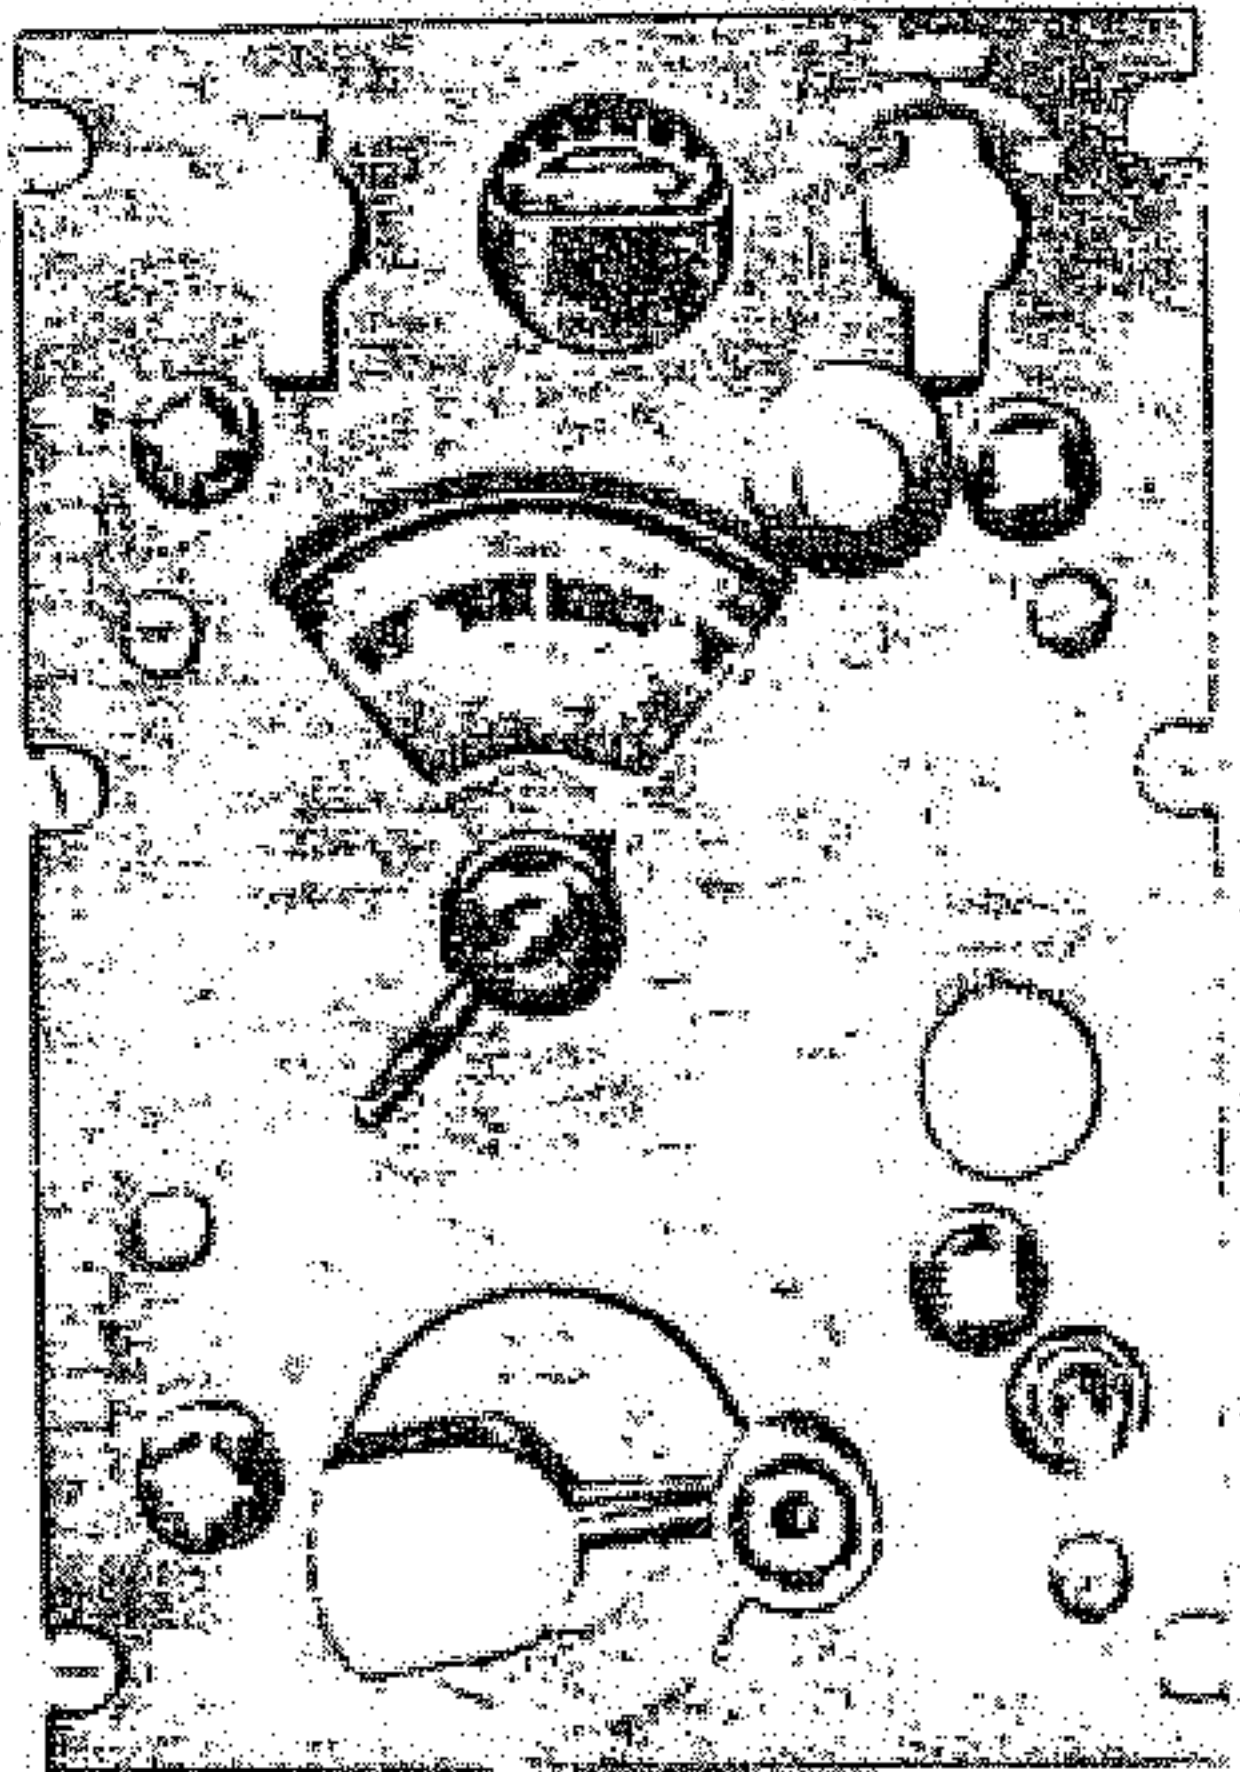

Figure 1-1B. Control Panel C-758/A
**b. CONTROL PANEL C-758/A. (See figure 1-1B.)**
**m. CONTROL PANEL C-758/A.** (See figure 1-1B.)—Control Panel C-758/A is similar to Control Box C-149/ARN-6 except that Control Panel C-758/A has no headset jack. Headset operation is to be provided through the aircraft interphone facilities. All electrical connections are made by means of a cable with a socket insert assembly plug connecting to a male connector in the rear of the control panel. The following controls are included: a five-position function switch marked "OFF-COMP.-ANT.-LOOP-